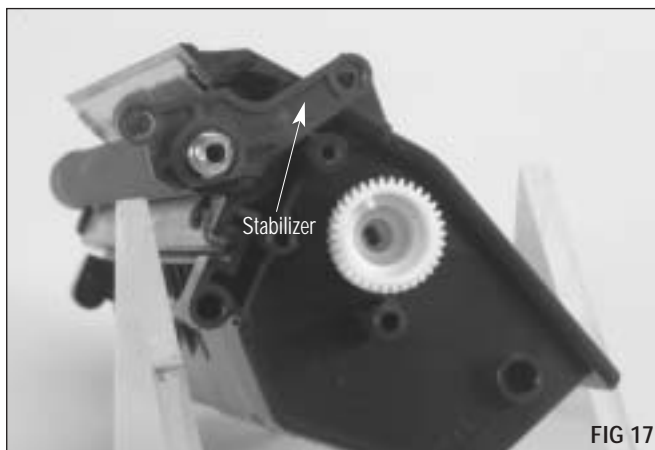

FIG 17
4. Replace the mag roller stabilizer bearing. Replace the stabilizer on each side of the mag roller (FIG 17).